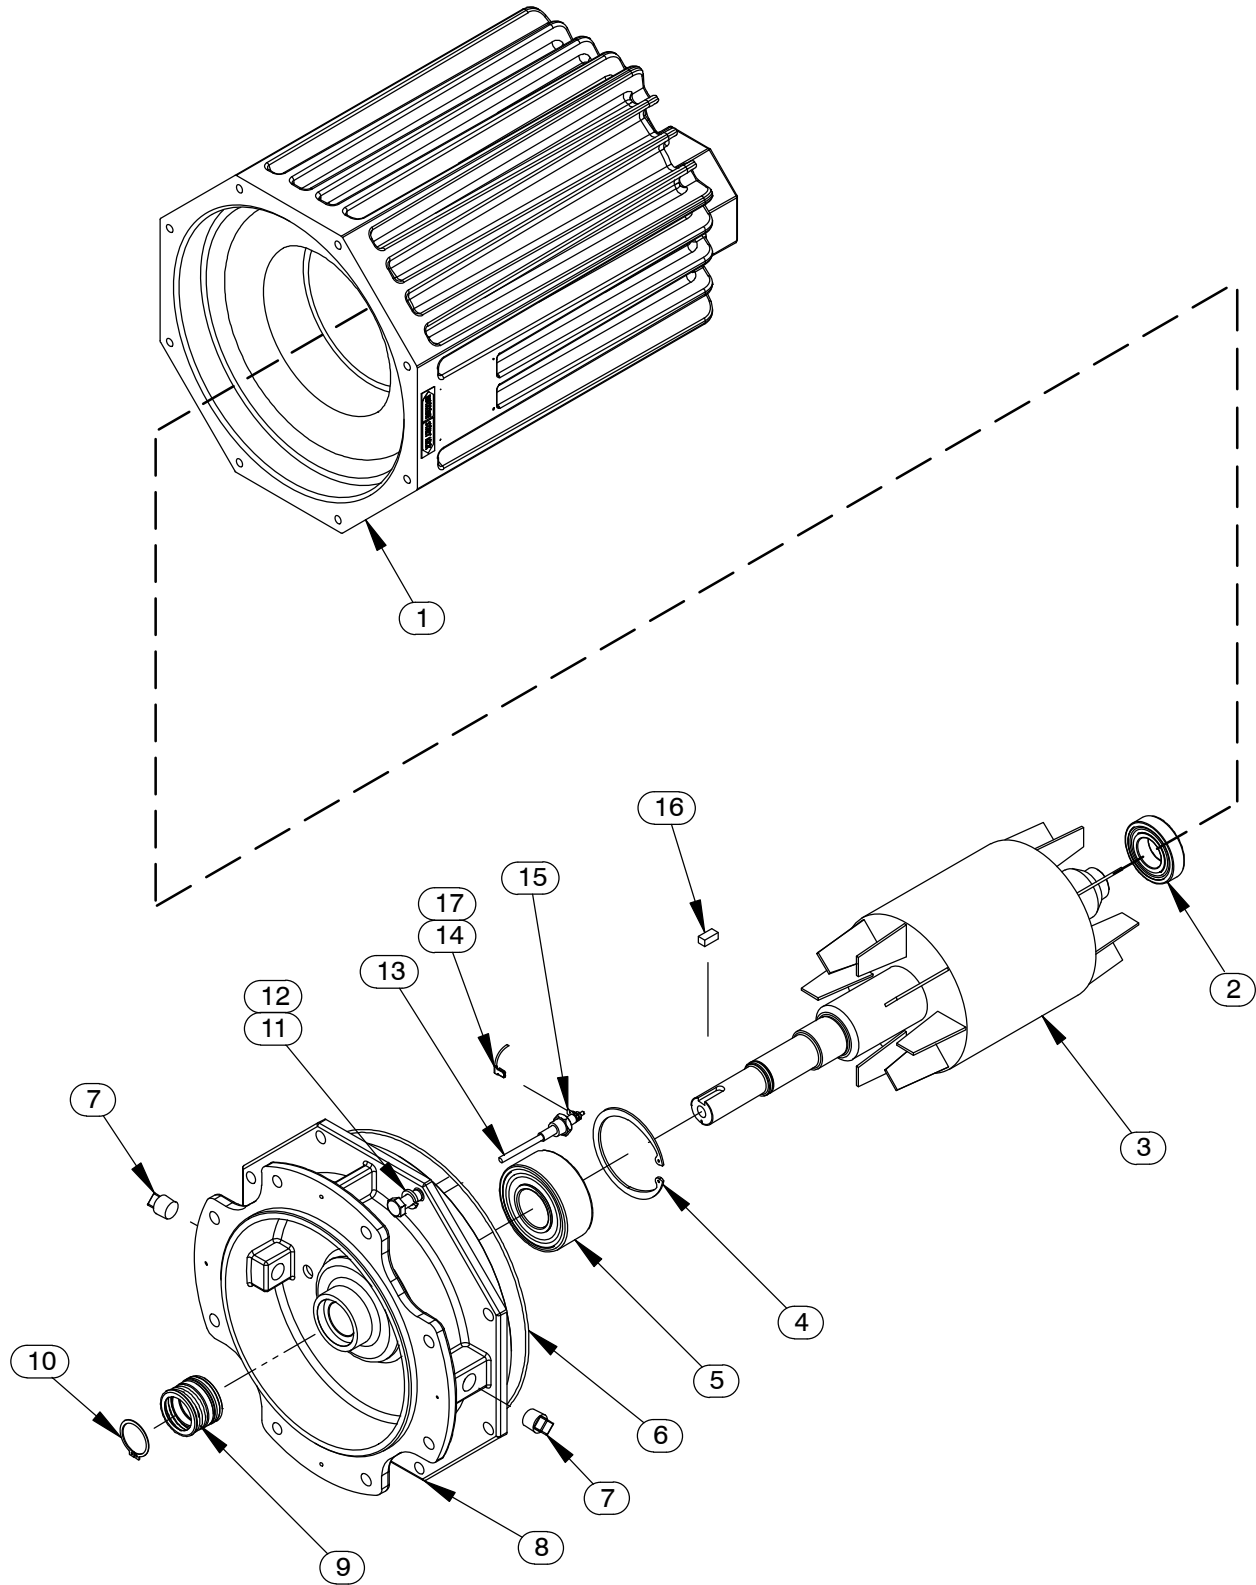

Figure E-2. Motor Assemblies
(Figure E-2)
To remove the impeller, use two thin-bladed screwdrivers positioned 180° apart to pry on the back of the impeller and “walk” the impeller off the shaft. Use increasingly larger screwdrivers (or wedges) as necessary. After the impeller comes free of the shaft, retain the impeller key (16, Figure E-2).
An alternate method of removing the stationary element is to remove the screws (19) securing the seal plate (18) to the motor assembly (14). Pry the assembled seal plate and stationary element off the shoulder of the intermediate (8, Figure E-2). Remove the O-ring (20) and press the stationary element and seat out of the seal plate from the back side.
(Figures E-2 and E-3)